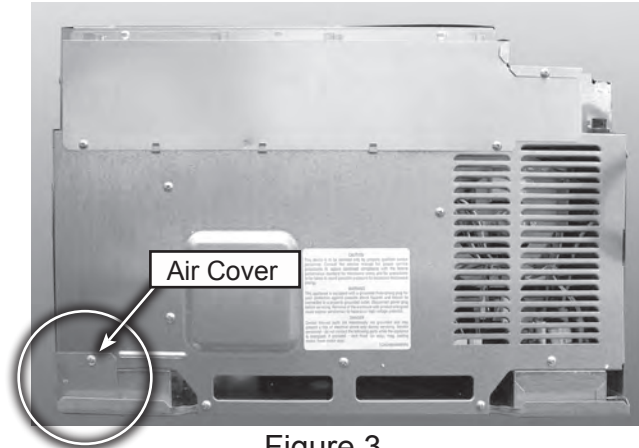

Figure 3
6. Remove air cover from back of unit, then both side panels. (figures 3 & 4).